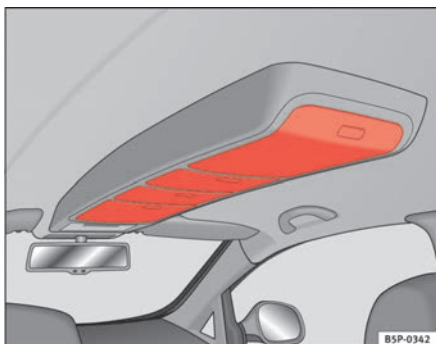

Fig. 104 Roof stowage compartments
- Press the button on the cover to open these compartments ⇒ fig. 104. The cover will then open.